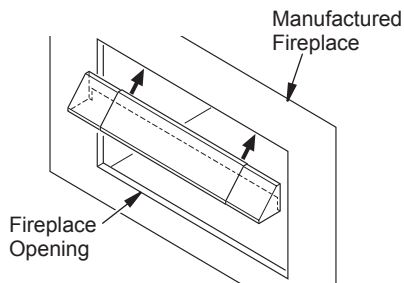

Figure 13 - Installing Hood Into Opening of Manufactured Fireplace
- Place the hood inside the fireplace opening as shown in Figure 13.